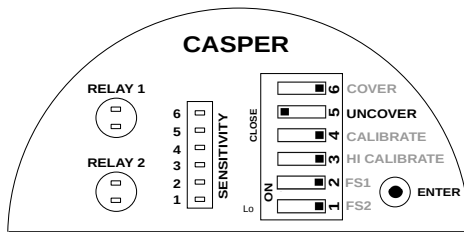

Figure 25: Uncover Delay Switch Position
- Set the UNCOVER switch to CLOSE (Opposite of OPEN for DIP switch) position as shown in Figure 25.